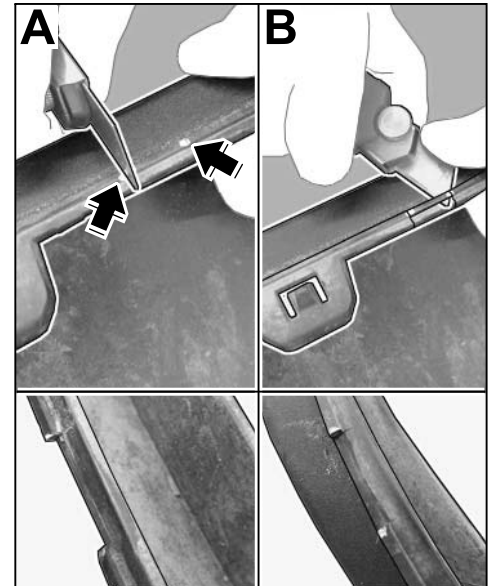

Figure 5
- 2.5.3 Cut standard rear panel using a cutter (Stanley knife), for example, ⇒ *Figure 5 -A-* at the markings ⇒ *Figure 5 -arrows-* and remove material between the cuts ⇒ *Figure 5-B-*.